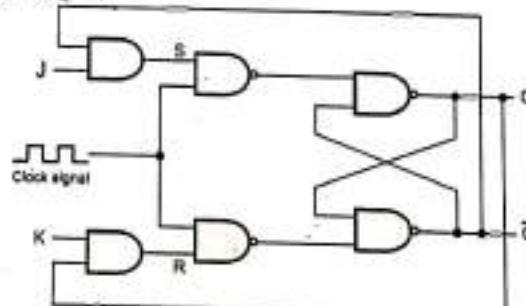

Fig. Q.58.1 Clocked JK flip-flop
**Ans. :** The uncertainty in the state of an SR flip-flop when  $S = R = 1$  can be eliminated by converting it into a JK flip-flop. The data inputs are J and K which are ANDed with  $Q$  and  $Q$ , respectively, to obtain S and R inputs, as shown in the Fig. Q.58.1. Thus,  $S = J \cdot \bar{Q}$  and  $R = K \cdot Q$ .